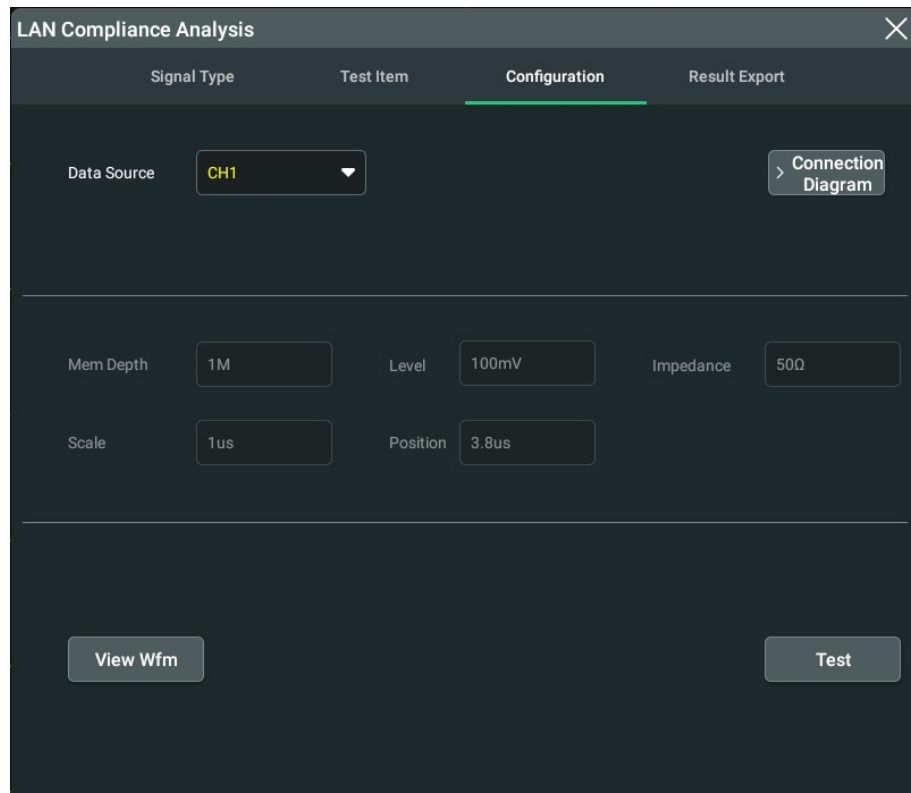

Figure 4.14 Test Configuration
4. After the specified signal type and test item are selected, the oscilloscope outputs a waveform based on the automatically set parameters such as level, scale, and impedance. Click or tap the **Configuration** tab to enter the "Configuration" menu. In this menu, you can view the parameters, as shown in *Figure 4.14*.